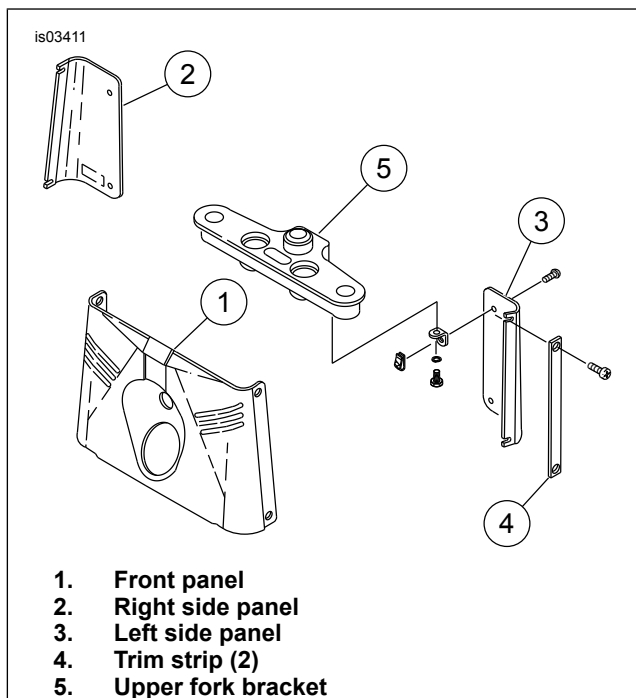

Figure 2. Front Fork Panels
2. Remove three retaining ring screws and retaining ring (2) from headlamp assembly (3). Pull lamp bulb out of connector.
6. See Figure 2. Remove screws that hold trim strips (4), side back panels (2, 3), and front panel (1) in place. Remove panels. When removing panels, carefully remove the brake line-routing clamps from the right side back panel. **Do not** open the brake line.